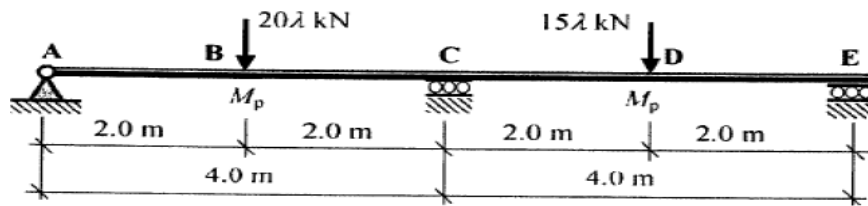

Figure 5.2
8. Determine the plastic moment capacity of a continuous beam shown in figure 5.2.